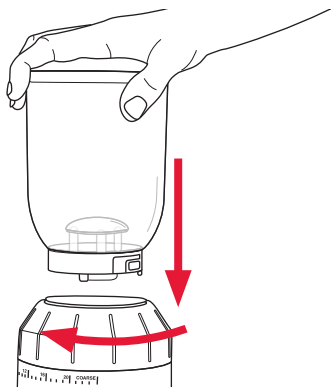

Figure 1
2. To attach the bean hopper, position bean hopper onto the top of the motor base, push down and turn clockwise. See figure 1.